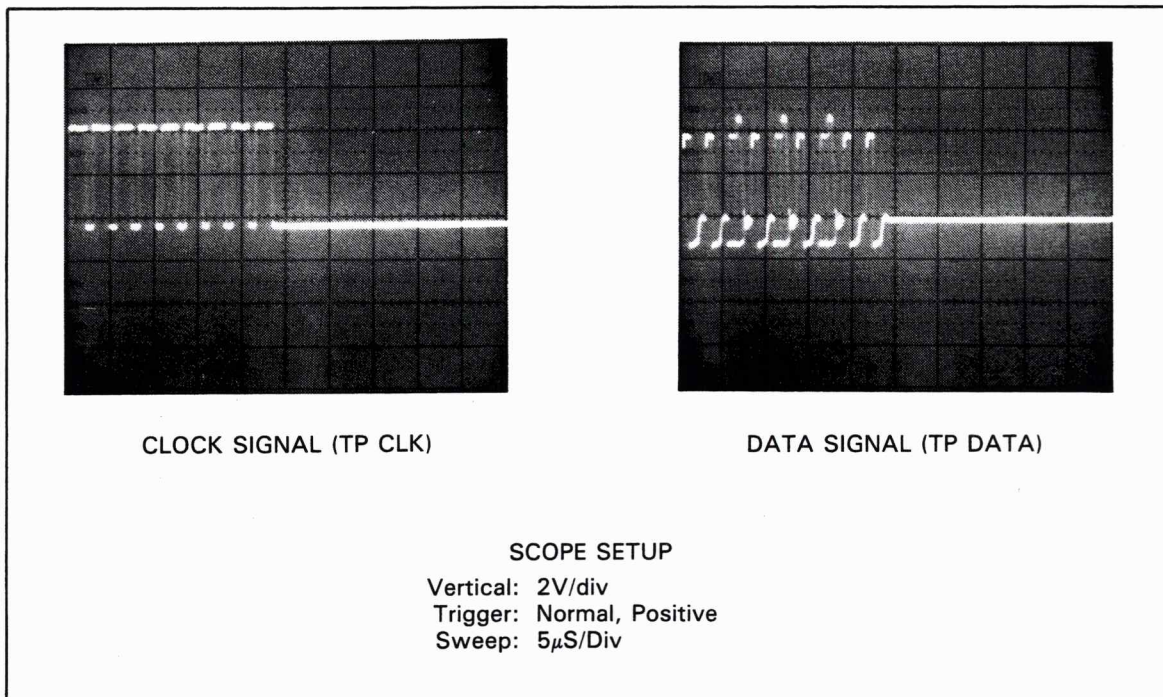

Figure 8-A1-3. Inguard Crossguard Clock and Data Signals
1. Check for clock and data signals at TP CLK and TP DATA, respectively. Use an oscilloscope to check for the signals shown in Figure 8-A1-3. Use the scope set-up information given in the figure to configure the scope.